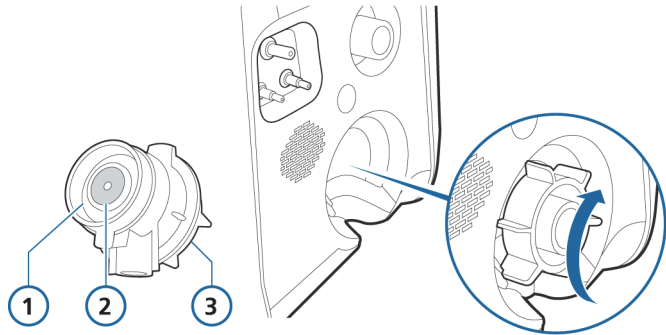

Figure 5-1. Installing the neonatal expiratory valve
1. Holding the expiratory valve housing (Figure 5-1), seat the silicone membrane onto the housing.